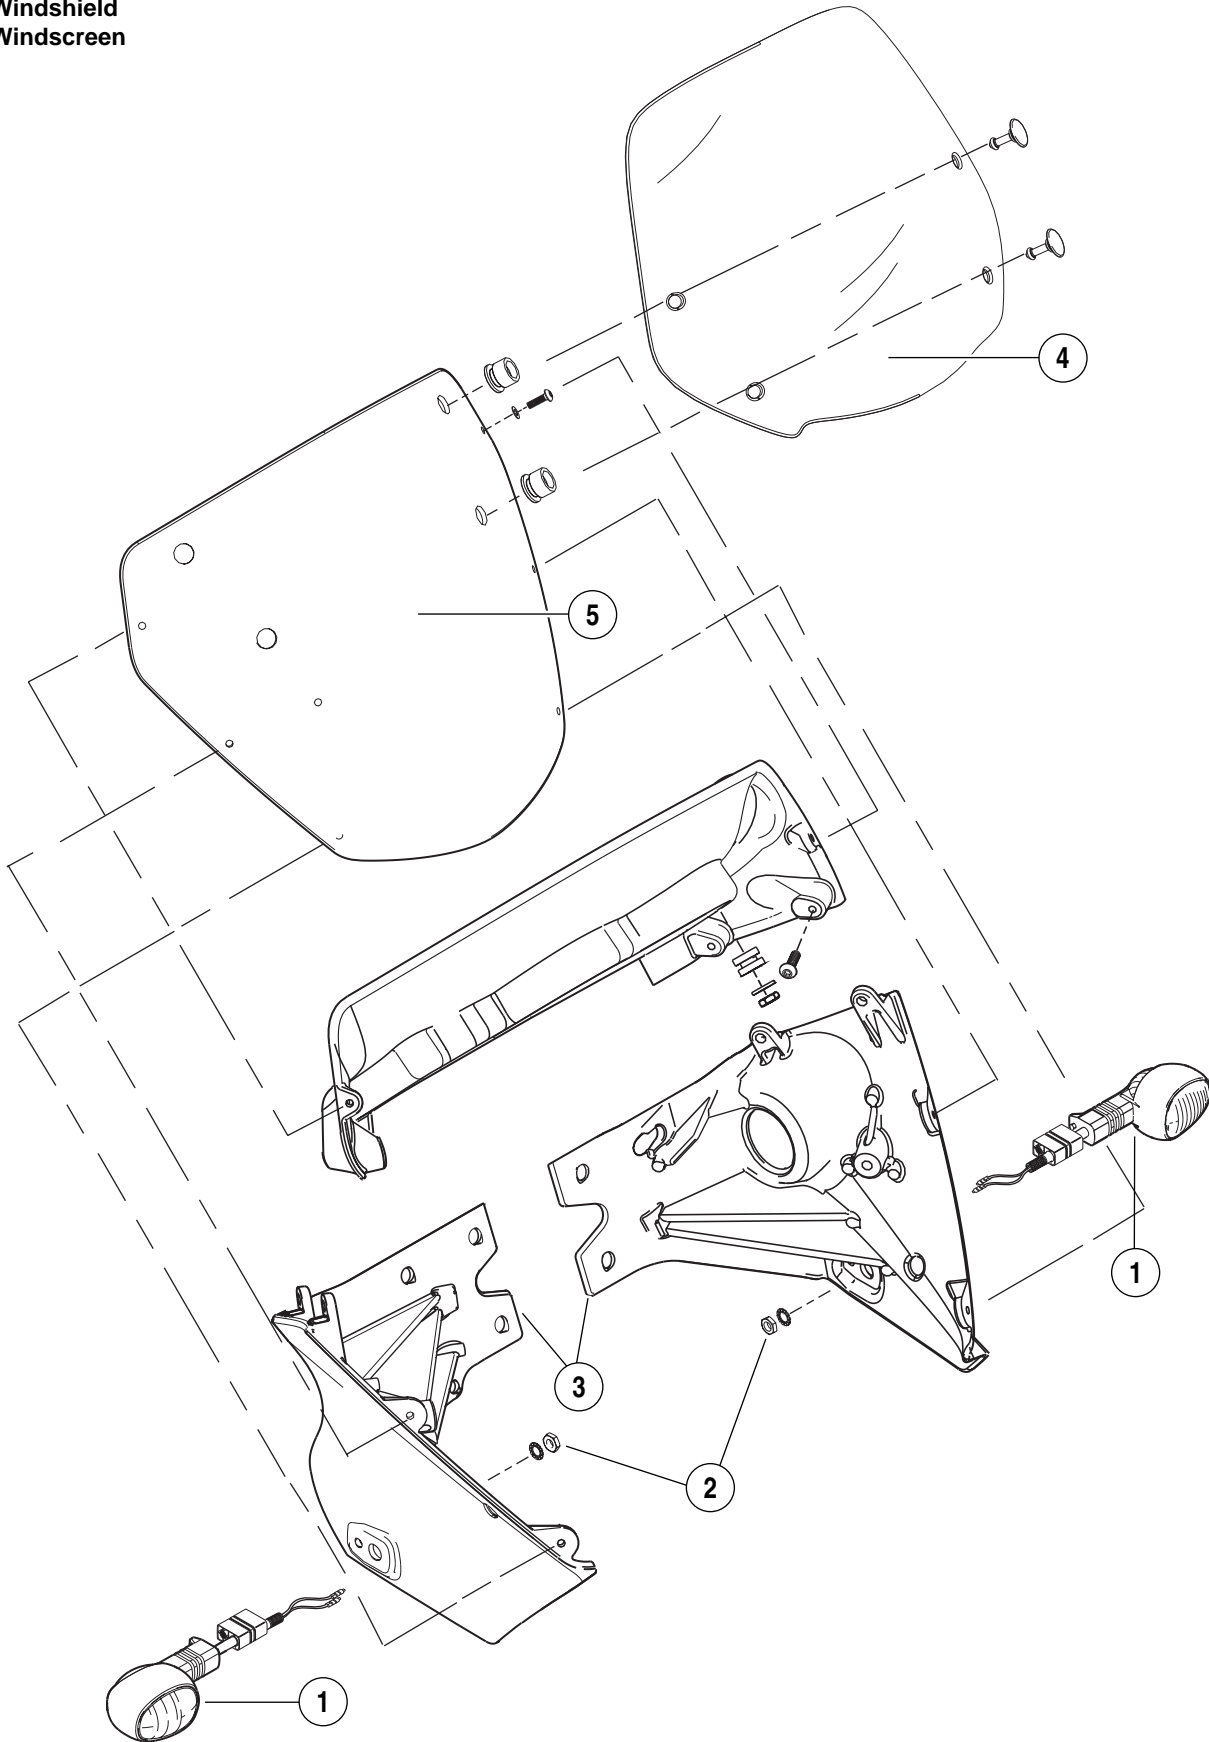

Figure 7-54. Front Turn Signals
3. See Figure 7-54. Remove jam nut and lockwasher (2) from inside of front module (3).
4. Pull bullet connectors and wiring through hole in front module (3) and remove turn signal (1).
1. See Figure 7-54. Insert bullet connectors and wiring through hole in front module.